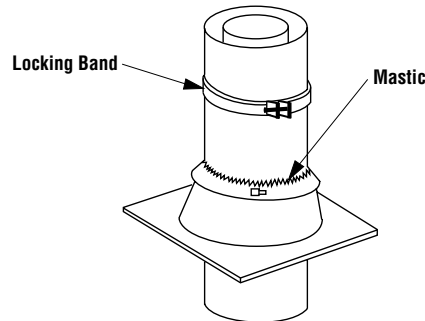

Figure 30
Step 8. The standard Security Chimneys FTF10 roof flashing assembly includes a storm collar. Slide storm collar over outer chimney, align with top surface of flashing, insert storm tab in slot, pull tight and bend tab back over slot. Seal storm collar to outer chimney with roof caulking or mastic around entire circumference of pipe. Also add extra roof caulking where storm collar meets flashing and to the tab/slot area to seal completely against water penetration (Figure 30). Check all joints very carefully to ensure no water intrusion can take place.
Step 9. Security Chimneys locking band, Model FLB, may be required if the chimney extends too high above the roof flashing. As a general rule, if the chimney extends more than 6' (1.8 m) above the roof/flashing, the use of locking bands is advisable to strengthen the chimney joints. Align the locking band at the pipe joint. Locking bands wrap around pipe joints equally covering the joints of both pipe sections. Use nut provided and TIGHTEN snugly. Do not over tighten as this might damage chimney section (Figure 30).